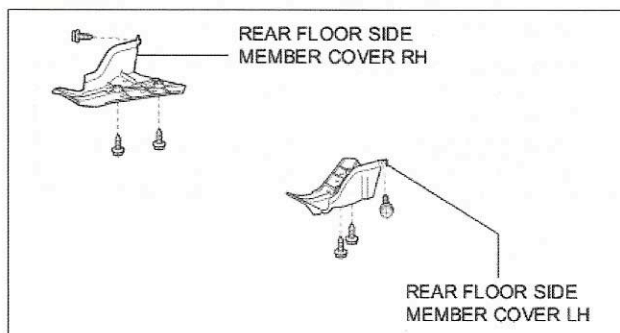

Fig 1-1
- (a) Remove LH & RH rear floor side member covers. (Fig 1-1)